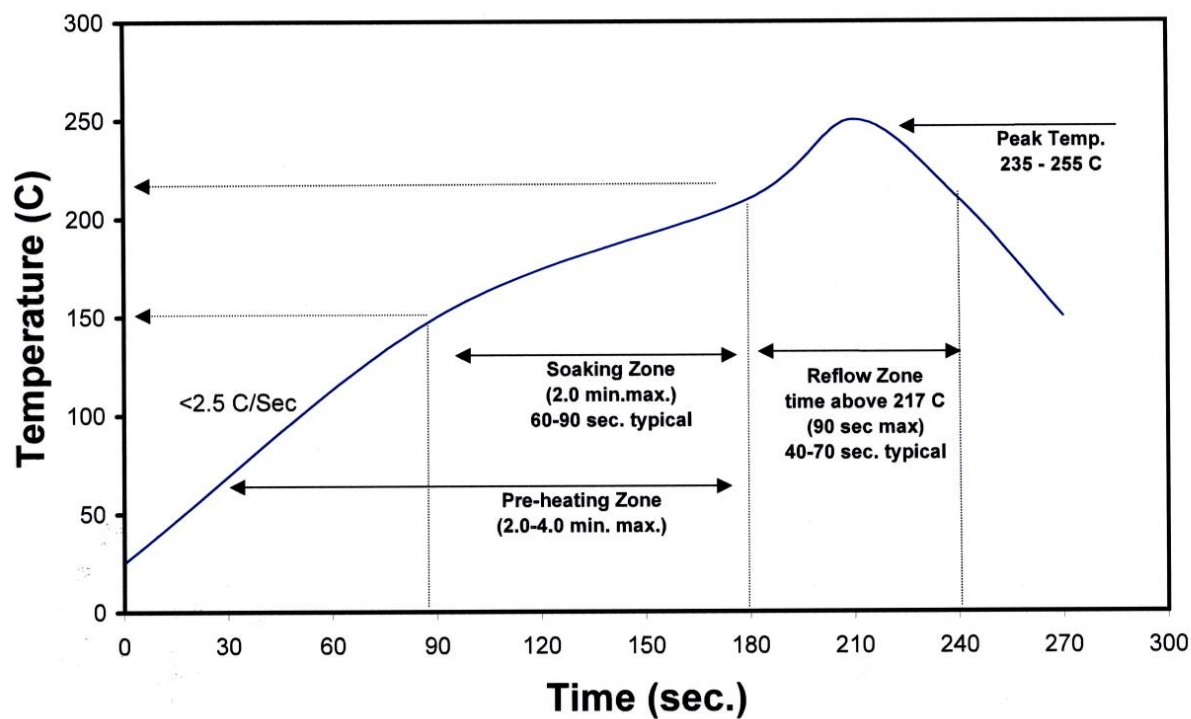

Figure 3: Reflow soldering profile for lead free soldering
- Solder conditions per JEDEC 020D. See Reflow Soldering Profile Figure 3.